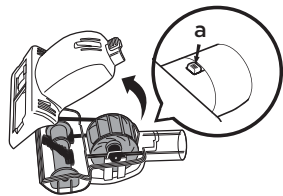

Fig. 26
- 1 Slide the locking latch (a) forward and lift off the brushroll housing. **(Fig. 26)**